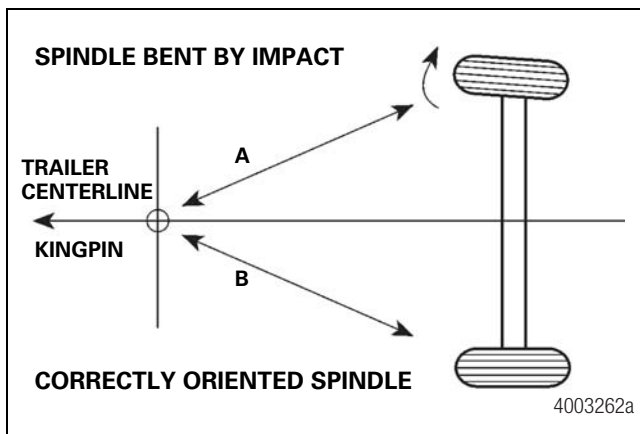

Figure 8.18
- A trailer in which the curbside front spindle has been bent into an excessive toe-out condition is shown in Figure 8.18. If this bent axle is oriented so the "A" and "B" dimensions are equal: